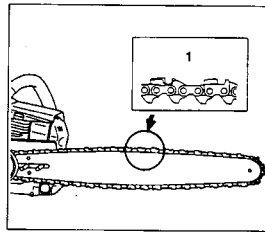

Fig. 1-2
2. Confirm the direction of saw chain (1) is correct as in the figure, and align the chain on the sprocket. (Fig. 1-2)